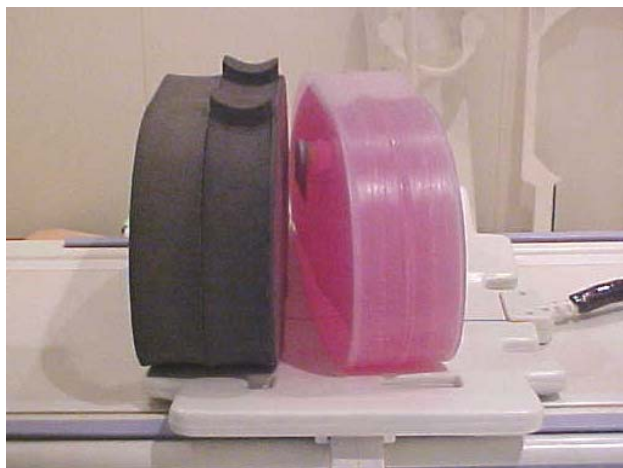

Figure 7 Phantom Setup
Step 3 – Position the phantom on the phantom positioner as shown in *Figure 7*.